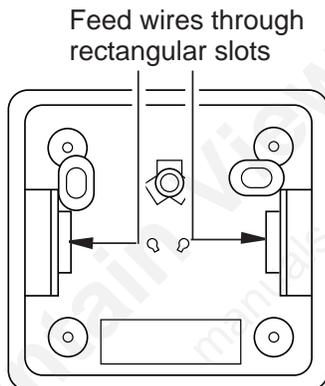

Figure 22 - Back View of Thermostat Base
5. Feed electrical wires through rectangular slots on each side of base (see **Figure 22**).